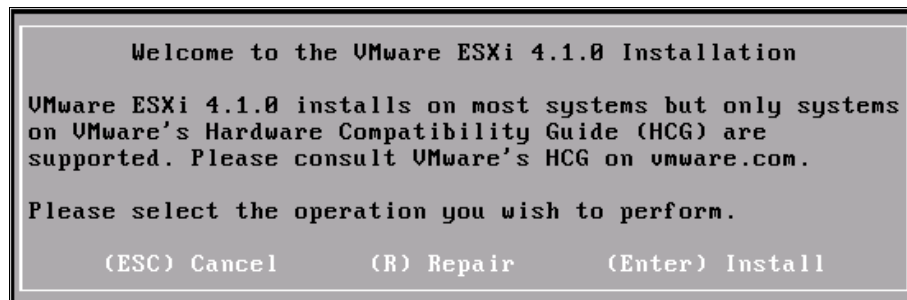

Figure 5-86 Installation panel
2. Press Enter to install VMware ESXi 4.1.0, as shown in Figure 5-86.